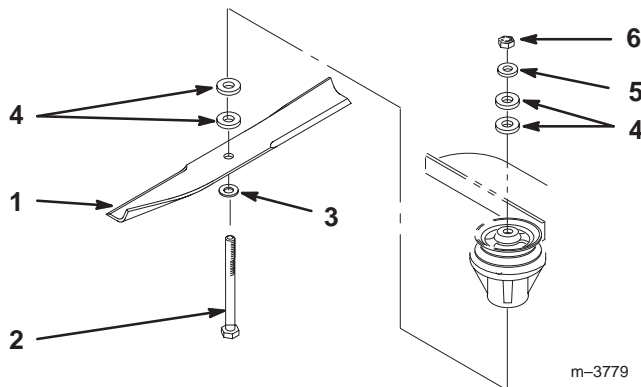

Figure 29
2. Remove the nut, blade bolt, cone washer, blade, spacers, and thin washer from the spindle (Fig. 29).
1. Place the blade onto the bolt and over the cone washer. Select the proper number of spacer(s) for the height-of-cut, and slide the bolt into the spindle (Fig. 29).
2. Install the remaining spacer(s) and secure them with a thin washer and a nut (Fig. 29).